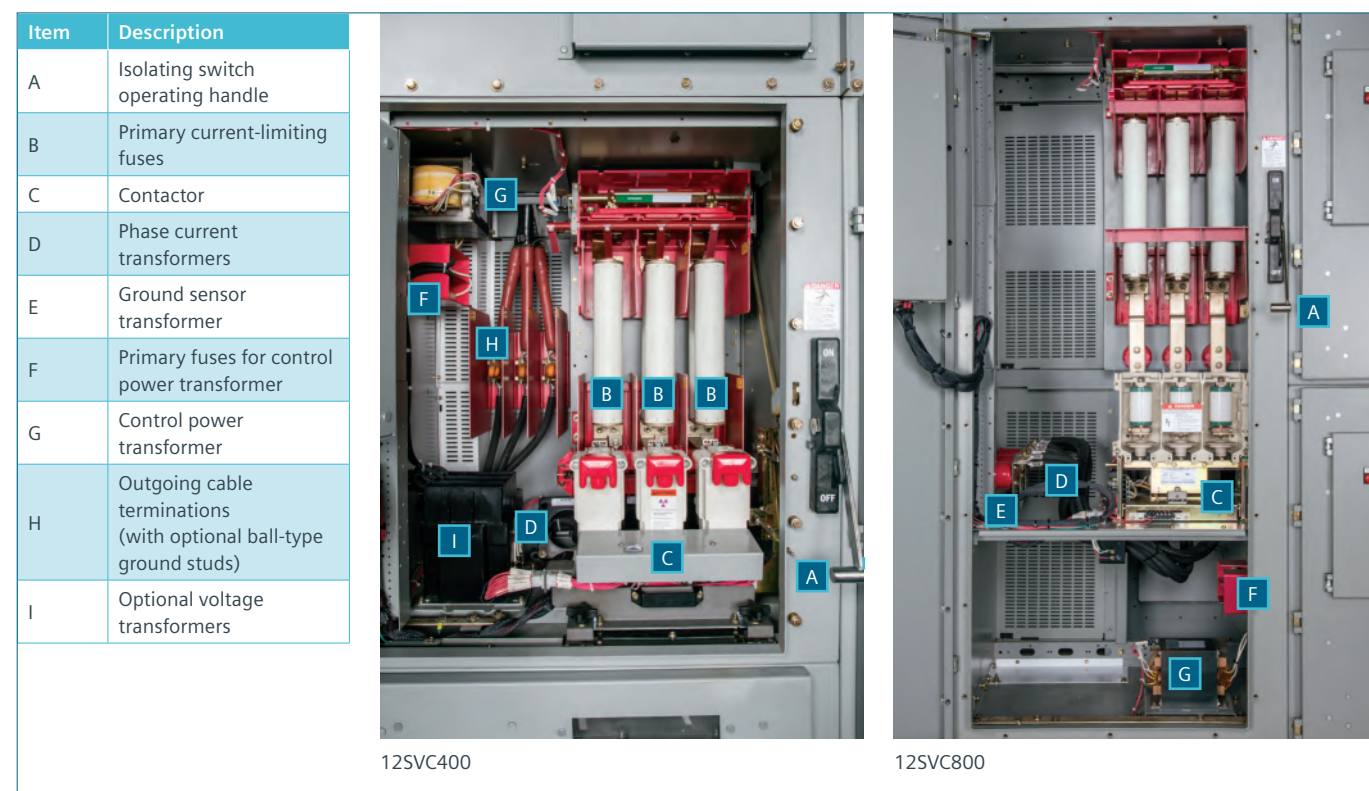

Figure 6: Typical controller compartments
- The medium-voltage compartment contains the vacuum contactor, primary fuses, current and voltage transformers (optional), a control power transformer (if applicable), a no-load isolating switch, load connections, and has space for optional surge protection devices such as surge limiters. (Refer to Figure 6 on page 10).